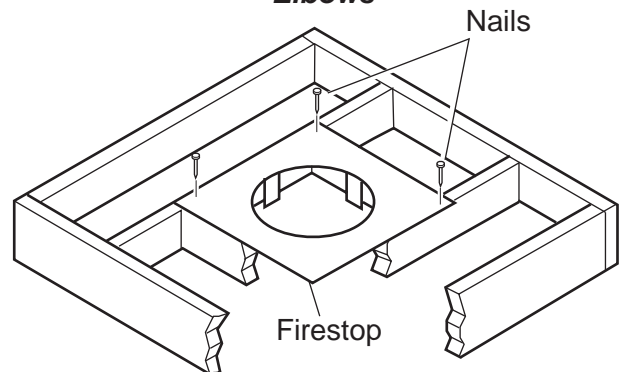
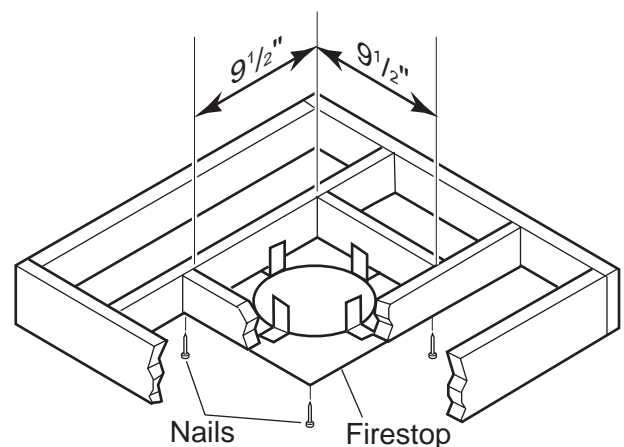

Figure 31 - If Area Above is a Room, Install Firestop above Framed Hole as Shown
Figure 32 - If Area Above is Not a Room, Install Firestop above Framed Hole as Shown
1. Cut a 9 $\frac{1}{2}$ " (241 mm) square hole in the ceiling using the locating hole as a center point. The opening should be framed to 9 $\frac{1}{2}$ " x 9 $\frac{1}{2}$ " (241 mm x 241 mm) inside dimensions as shown in Figure 32 using framing lumber the same size as the ceiling joist. If the area above the ceiling is an insulated ceiling or a room, nail firestop from the top side. This prevents loose insulation from falling into the required clearance space. See Figure 31. Otherwise, install firestop below the framed hole. See Figure 32.
2. Cut the hole 1/8" larger than the support box outline. See Figure 32.
3. Lower the support box through the hole in the roof until the bottom of the box extends at least 2" below the ceiling. See Figure 32. Align the support box vertically and horizontally using a level. Temporarily tack the support box in place through the inside walls and into the roof sheathing.